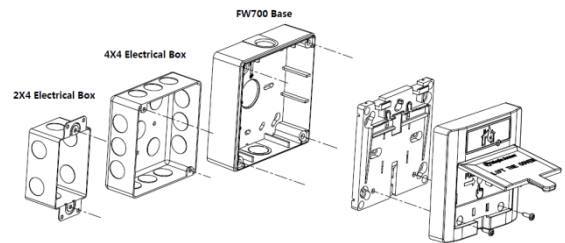

Figure 1. Manual Station Installation
1. Base and electrical box are optional for installation, as illustrated in Figure 1.